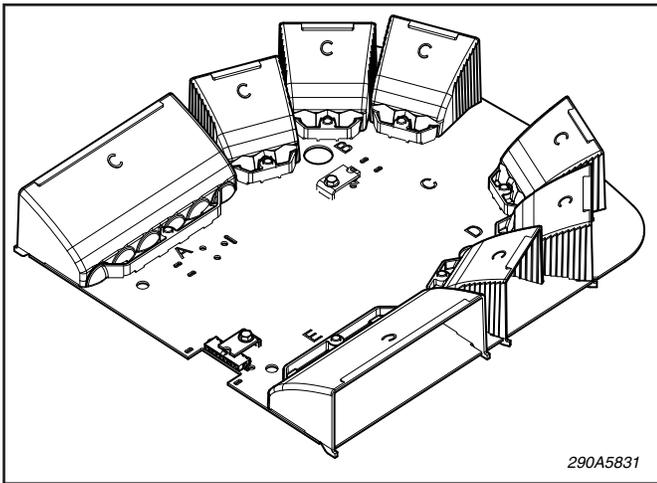

Figure 5.
F. *PCB Controller Replacement (see figure 5) and Halogen/LED Head Fuse Access.*